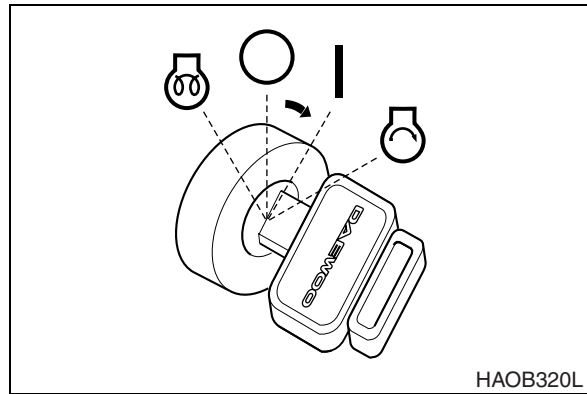

Figure 2
4. Rotate the starter switch to the "I" (ON) position (Figure 2). Check all indicator lights. After 2 seconds, all lights except the following will turn "OFF."